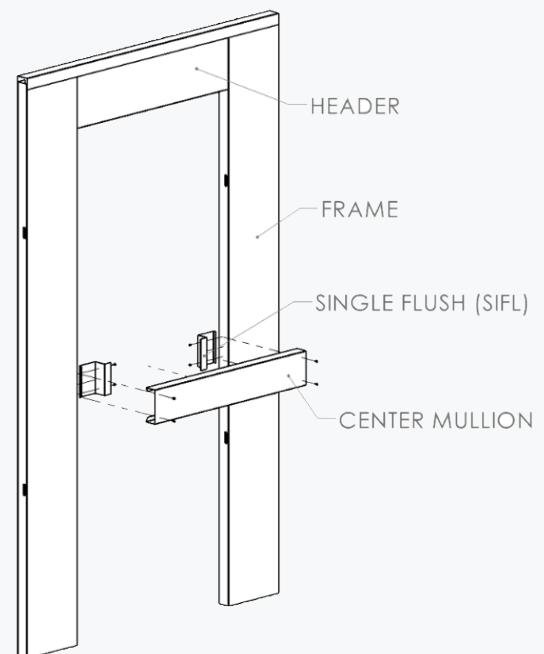

figure 5
- ◆ Install a Single Flush Plate (SIFL) on each frame with (2) #8 x ½ Hallway Screws and locate them so the top of Center Mullion is at 48" from the floor. This dimension may change based on system height and requested door height from customer. **See Figure 5 & 6.**
- ◆ Install the Center Mullion to the Single Flush Plates (SIFL) and secure with (4) white #8 x ½ Hallway Screws. **See Figure 5.**